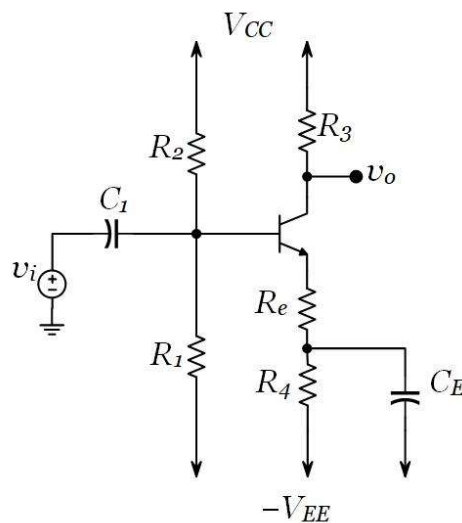

Figure 5.3. Common emitter amplifier with emitter degeneration.
0. Determine the gain of the circuits in Figure 5.1 and Figure 5.3.
13. Modify your circuit to get the circuit in Figure 5.3. Use $R_e = 50\Omega$.